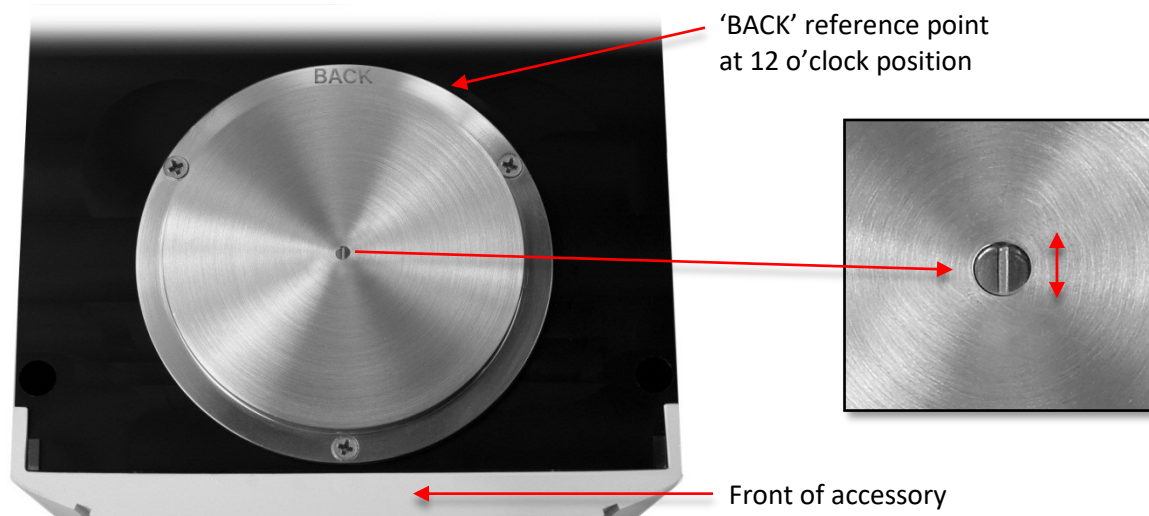

Figure 3. Top view of crystal plate properly seated on the accessory
2. Install the ATR crystal plate. For proper orientation the engraved work 'back' is situated at the 12 o'clock position. With a diamond plate, you are also able to notice a vertical support bar oriented from front to back on the accessory (Figure 3). The support bar is not visible when using the Ge ATR plate. Installing the ATR crystal plate improperly will result in no or very low throughput energy through the accessory.